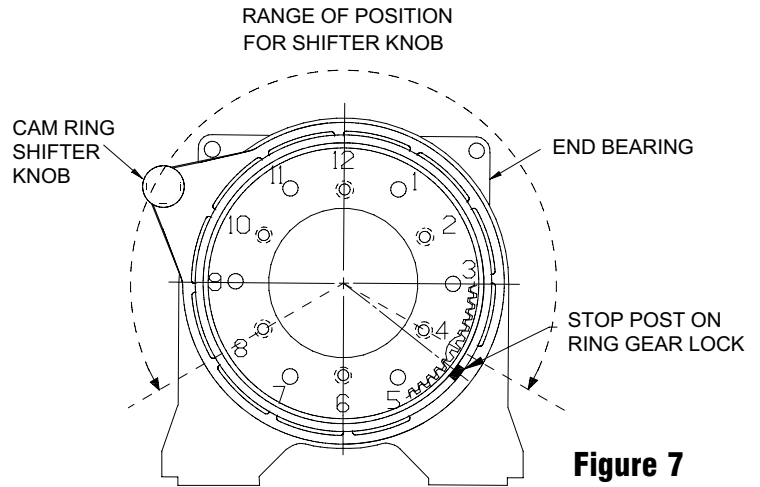

Figure 7
- Determine position shifter knob needs to be for your application. **Note:** Shifter knob cannot be positioned too low or it will interfere with the feet on the Gear End Bearing (see Range of Position in Figure 7).